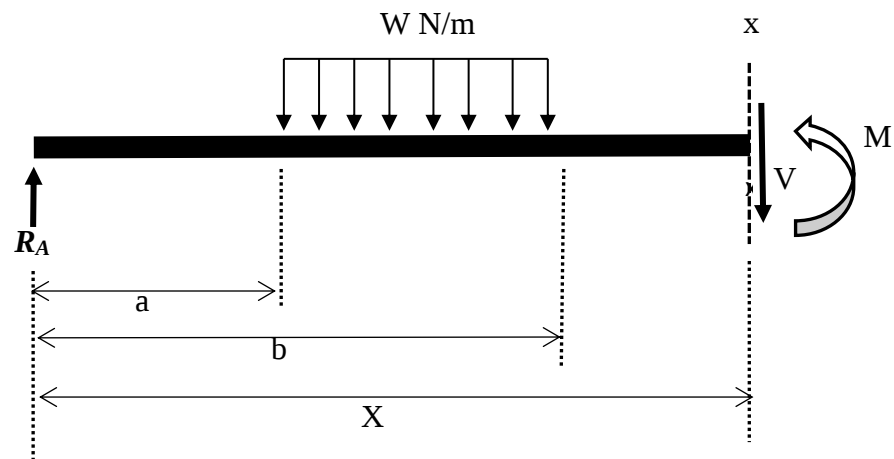

Figure B4(a) / Rajah B4(a)
- CLO2 (a) A simply supported beam is subjected to a uniformly distributed load $W\text{ N/m}$ in the middle of the span as shown in Figure B4(a). By using Macaulay's method, show the moment equation, $EI \frac{d^2y}{dx^2}$ when the beam cut at $x-x$.